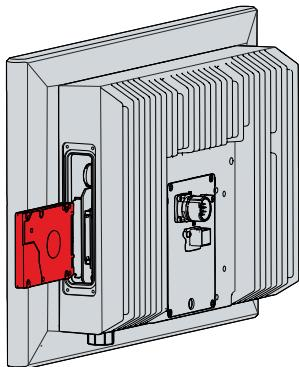

Fig. 41: CP32xx-1600_exchange storage medium
2. Insert the new battery into the PC by hand. Pay attention to the correct polarity. The negative pole of the battery must face the display (see Fig. 41).